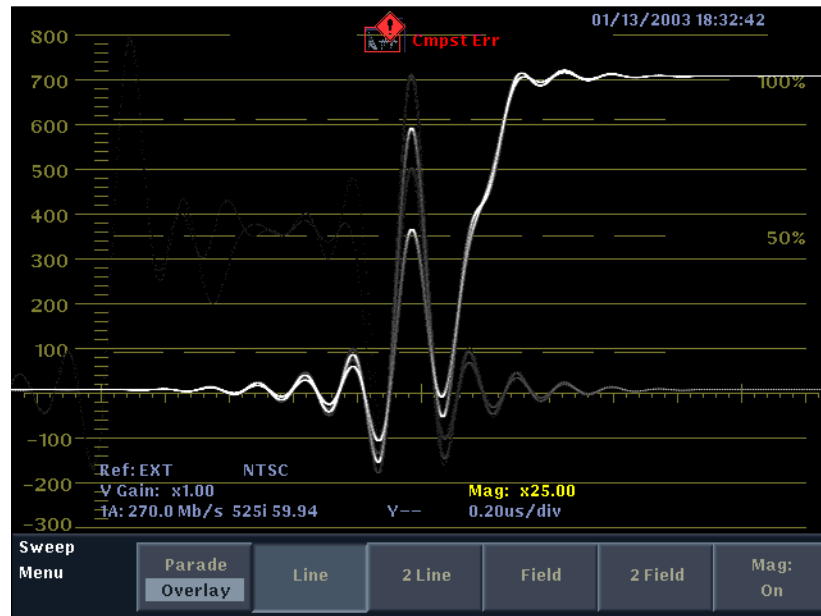

Figure 3-15: XYZ pulse of Y channel with pass through selected
4. In the Video Inputs/Outputs submenu of the Configure menu, set Strip EAV/SAV to Pass. This mode allows the 3FF, 000, 000, and XYZ values to be displayed on the waveform monitor as shown in Figure 3-15.